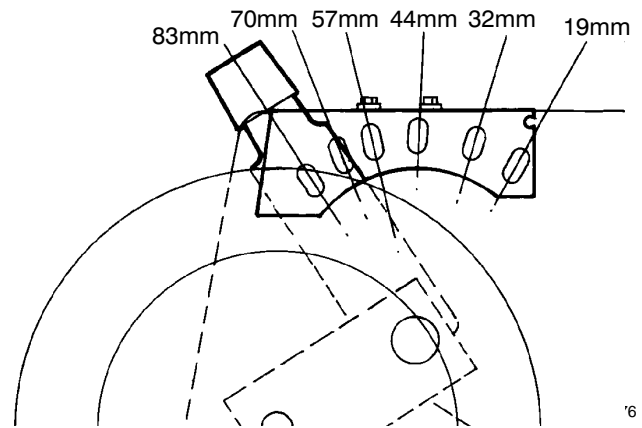

Figure 9
- Grass grows at different rates at different times of the year. In the heat of the summer, it is generally best to cut grass at the 44 mm (1-3/4"), 57 mm (2-1/4") or 70 mm (2-3/4") height-of-cut settings (Fig. 9). Only about 1/3 of the grass blade should be cut off. Cutting below the 44 mm (1-3/4") setting is not recommended unless grass is sparse or it is late fall when grass growth begins to slow down.
The height-of-cut is adjustable from approximately $\frac{3}{4}$ to $3\frac{1}{4}$ inches (19 mm to 83 mm), in $\frac{1}{2}$ inch (12.7 mm) increments (Fig. 9). Moving height-of-cut adjuster forward raises height-of-cut.